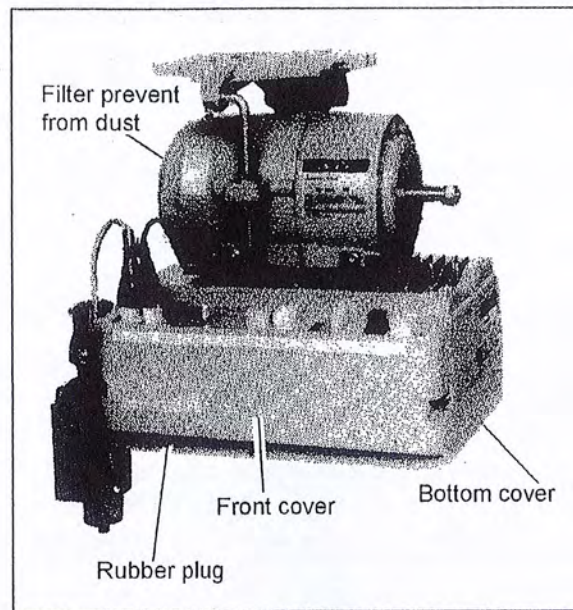

Fig.16
15. Handling instructions (Motor and control box) (Fig.16):
8) When manipulating the switch in the control box, first turn off the power switch, then open the front cover (Fig.16). If you have to open the bottom cover, wait for 10 minutes after the power switch has been turned off, since a high voltage is applied inside the box. (This is vital to discharge the built-in capacitors).